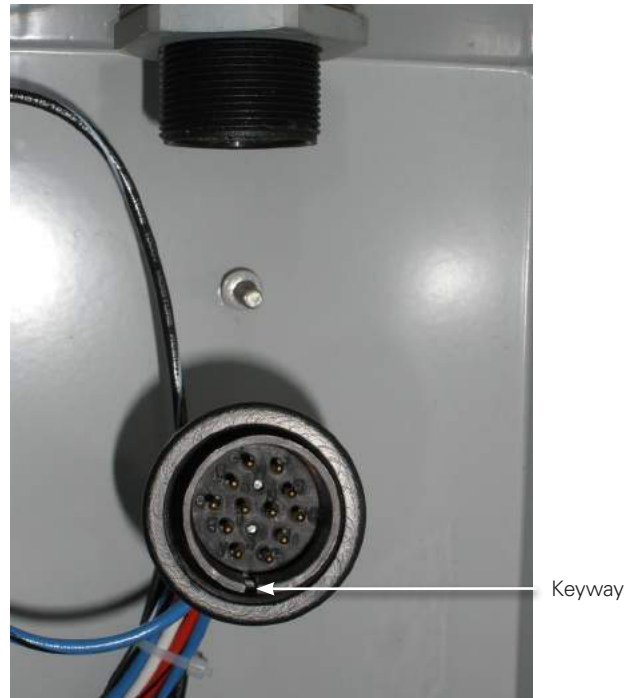

Figure 19. Male pigtail harness connector.
4. Locate the pigtail harness with male connector and line up the keyway with the key of the control cable connector. See Figure 19.